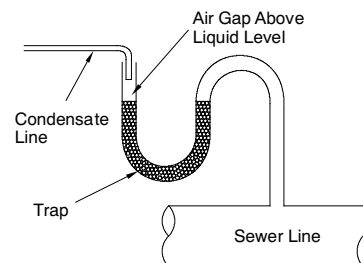

**Fig. 9 – Condensate Trap and Drain**
- Make trap at least 3 inches (76 mm) deep and no higher than the bottom of unit condensate drain opening (Fig. 9).